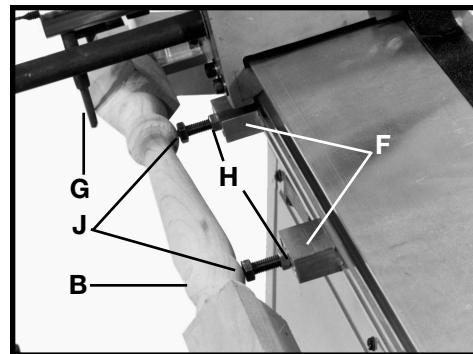
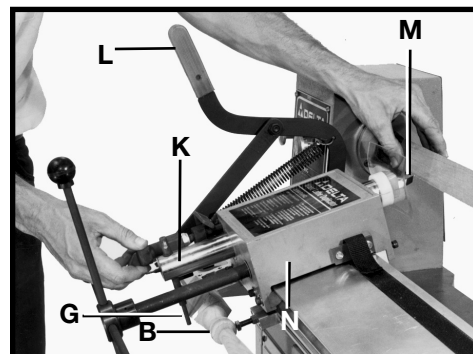

Fig. 81
Fig. 82
Slide the two support brackets (F) Fig. 81 to the areas adjacent to the turning (B) where support is needed to prevent deflection as the follower arm (G) moves across the turning (B). Loosen two locknuts (H) and move the two support screws (J) outward until the screws contact the surface of the turning (B) (Fig. 81), and firmly tighten locknuts (H). Mount the workpiece between the lathe centers and lock tailstock in position on the lathe bed. Adjust the tool advancement arm (K) Fig. 82, so the follower arm (G) is against the largest diameter of the turning (B) Fig. 82. Pull spring handle (L) back and move the tool advancement arm (K) back one notch (1/8").